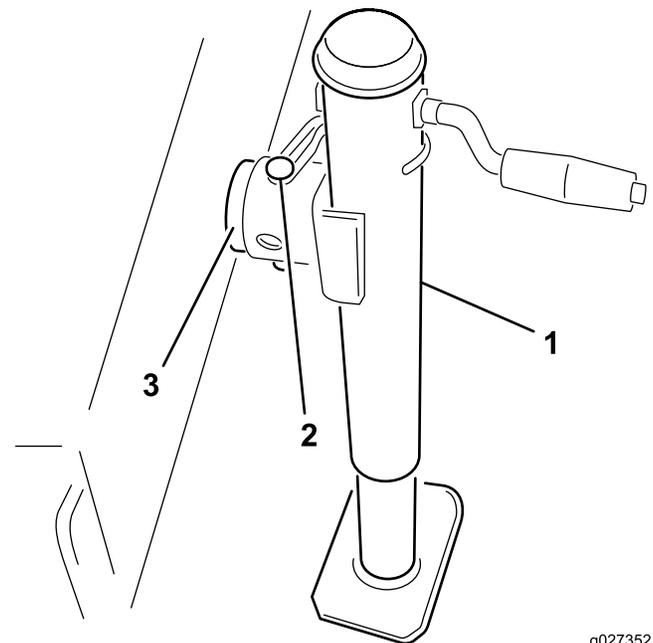

Figure 2
2. Insert the jack onto the frame pin and secure it with the pin (Figure 2).